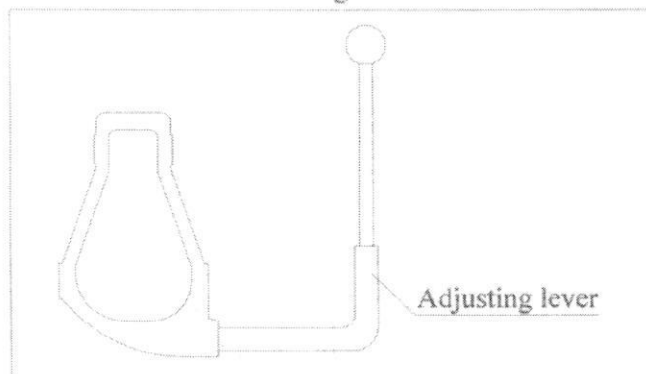

Fig.7
4.8 Adjustment setting of the stitch length (Fig.7)